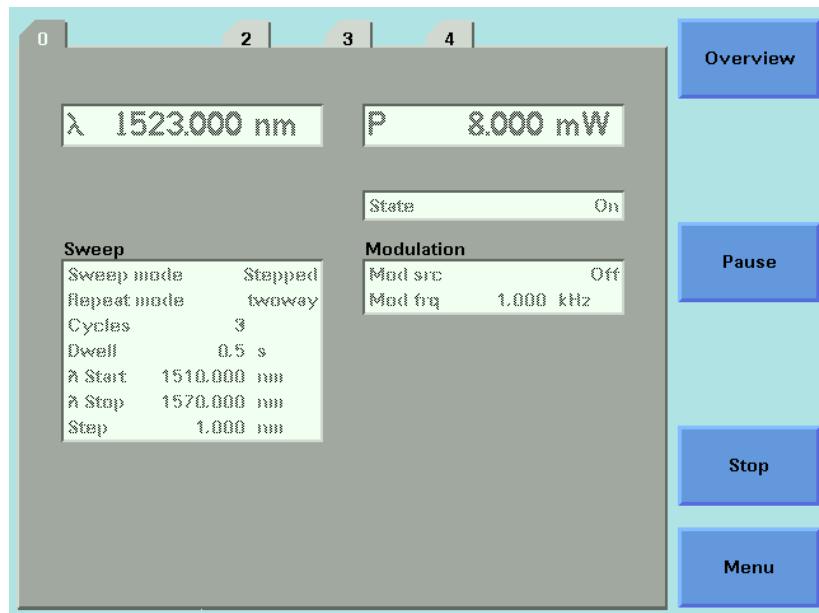

Figure 86 Executing a Stepped Sweep
- 17 Press [Run Swp] to start the sweep. The screen in Figure 86 on page -150 appears.